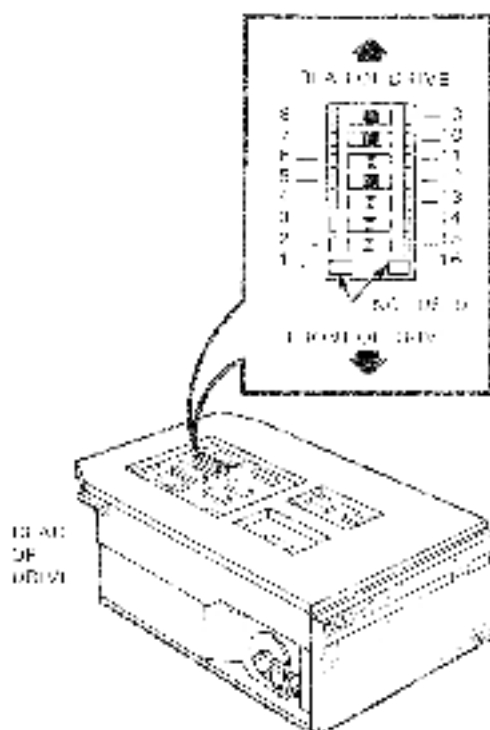

Figure 8-10 DIP Switch Pack Setting
^a Place the 14-pin DIP jumper pack in the rear 14 receptacles or the 16 pin socket (figure 8-10).
5. Remove all modules (Figure 8-10). Refer to Section 8.9 for instructions.